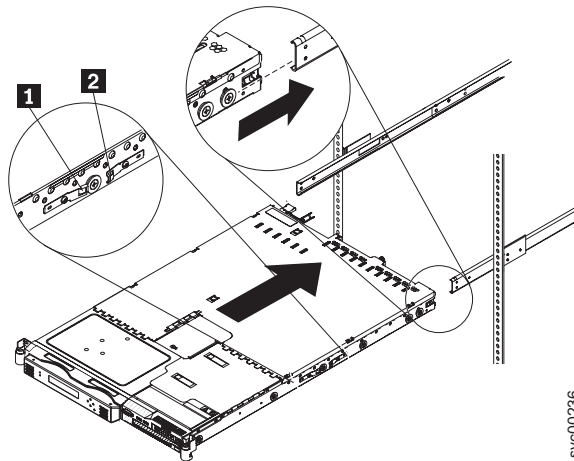

Figure 25. Aligning the SAN Volume Controller 2145-8G4 with the rack slides
2. Align the two rear wheels on the node with the opening in the slides and then push the node into the slides until the rear slide release latches (**2** in Figure 25 on page 48) click into place, locking the node in the slides.